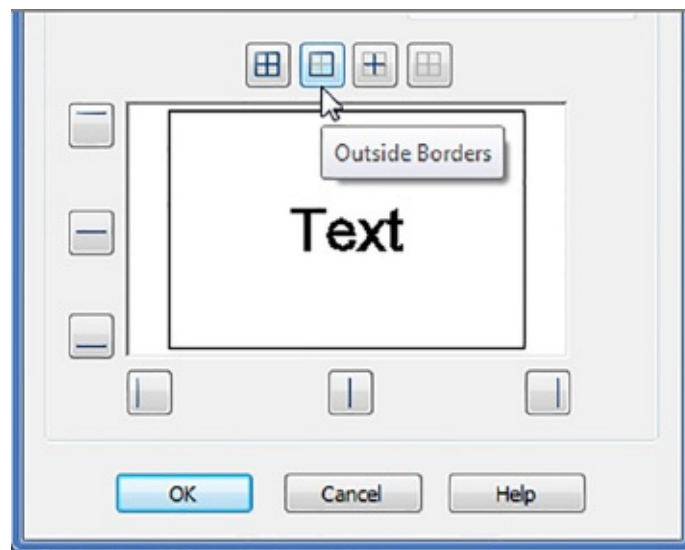

FIGURE 10.14 Click to display outside borders.
5. Click the Outside Borders button that appears just above the preview panel to tell AutoCAD to change the borders of the cell to the selected lineweight (see Figure 10.14).